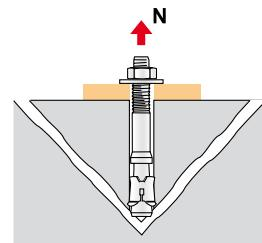

fig.18
- Concrete cone failure (fig.18): where the tensile force acting on the anchor is transferred to the concrete creating a complex tensional state. This causes concrete failure in the form of a cone-shaped area where the vertex is in axis with the anchor, with a depth equal to  $h_{ef}$  and with a width of approximately 100°-110°.